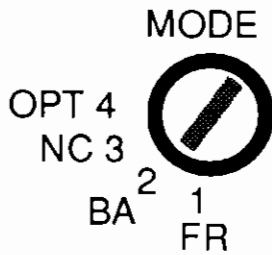

Figure 19
Position 2: Bi-amplified (BA) mode. (See Figure 19.)